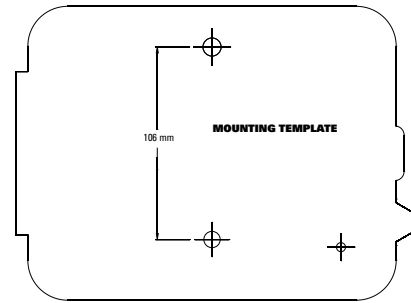

Figure 1: Use Mounting Template (included)
- Use the mounting template (included) to mark the mounting screw location on the wall. See Figure 1